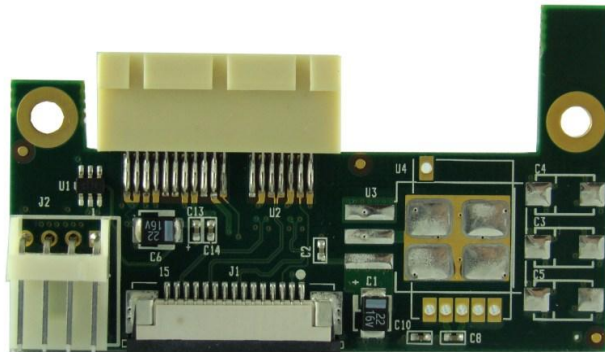

Figure 3: x1 PCI Express adapter board (powered from MiniPCI Host card)
It includes MiniPCI Host card (Figure 2) and x1 PCI Express adapter board (Figure 3/Figure 4/Figure 5). The MiniPCI Host card has to be plugged into an upstream MiniPCI motherboard connector. PCI Express adapter connects to the main MiniPCI Host card via 12” Flex PCI Express cable. The expansion x1PCI Express add-in board has to be plugged into the standard PCI Express connector on the PCI Express adapter board.
- From MiniPCI Host card (3.3 volt only) via power cable and x1 PCI Express adapter board (Figure 3)